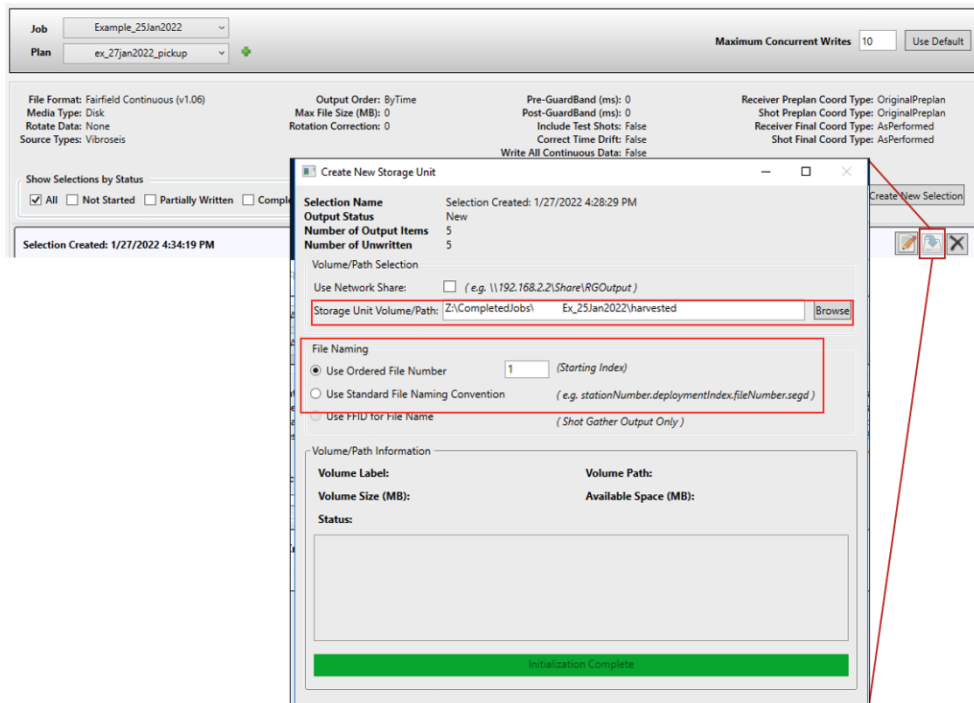

Figure 4-10 Final step to export data to file.
15. As shown in Fig 4-10, click on the disk icon (*Save to New Storage Unit*) and write to your empty 'harvested' folder (*Data (Z): > Completed Jobs > YourCompletedJob > harvested*). Use either the Ordered File Number (does not create subfolders) or the Standard File Naming convention (will create subfolders).